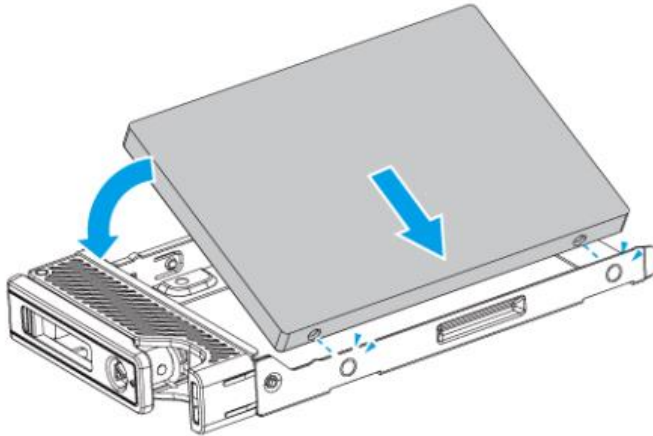

Figure 3-8: Installing U.2 Drive
Step 2: Align one side of the drive with the drive tray, and press down on the other side until it snaps into place (**Figure 3-8**).